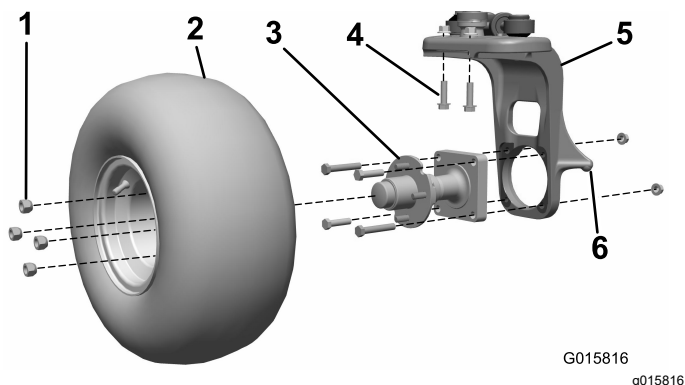

Figure 1
1. Raise the unit on the castor fork lift point (Figure 1).
2. Remove the wheel assembly from the wheel hub. Retain the lug nuts (Figure 1).
3. Remove the 4 bolts and 2 nuts securing the wheel hub to the castor fork (Figure 1). Discard all items.
4. Remove the 2 bolts and 2 nuts securing the vertical steering pivot to the castor fork (Figure 1). Discard these items.